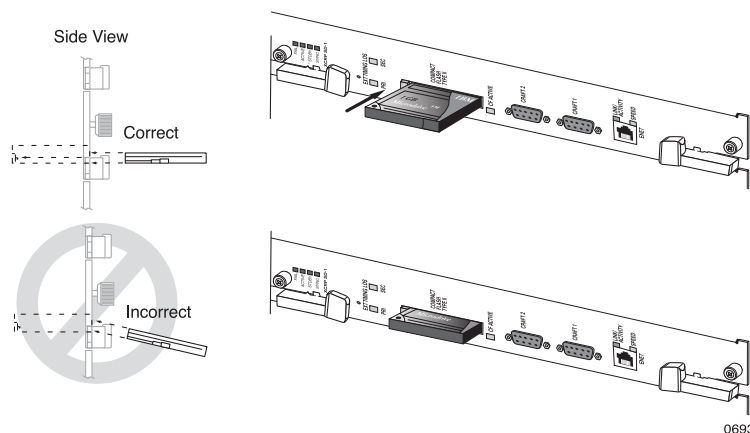

Figure 18 Installing a CF Card
3. Horizontally align the device as close to the bottom edge of the slot as possible and perpendicular to it; see Figure 18.